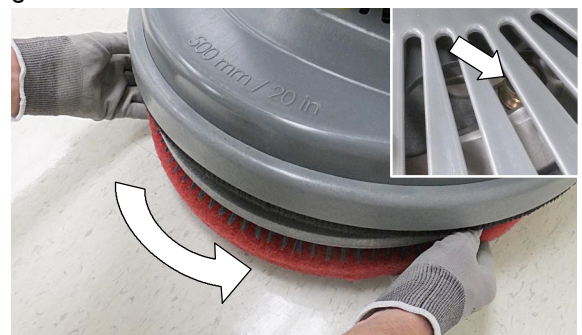

FIG. 10
3. Single disk model - Position the three lugs into the motor hub slots and give the pad driver/brush a quick counter-clockwise turn to engage hub (Figure 10). View through the scrub head window to align lugs.